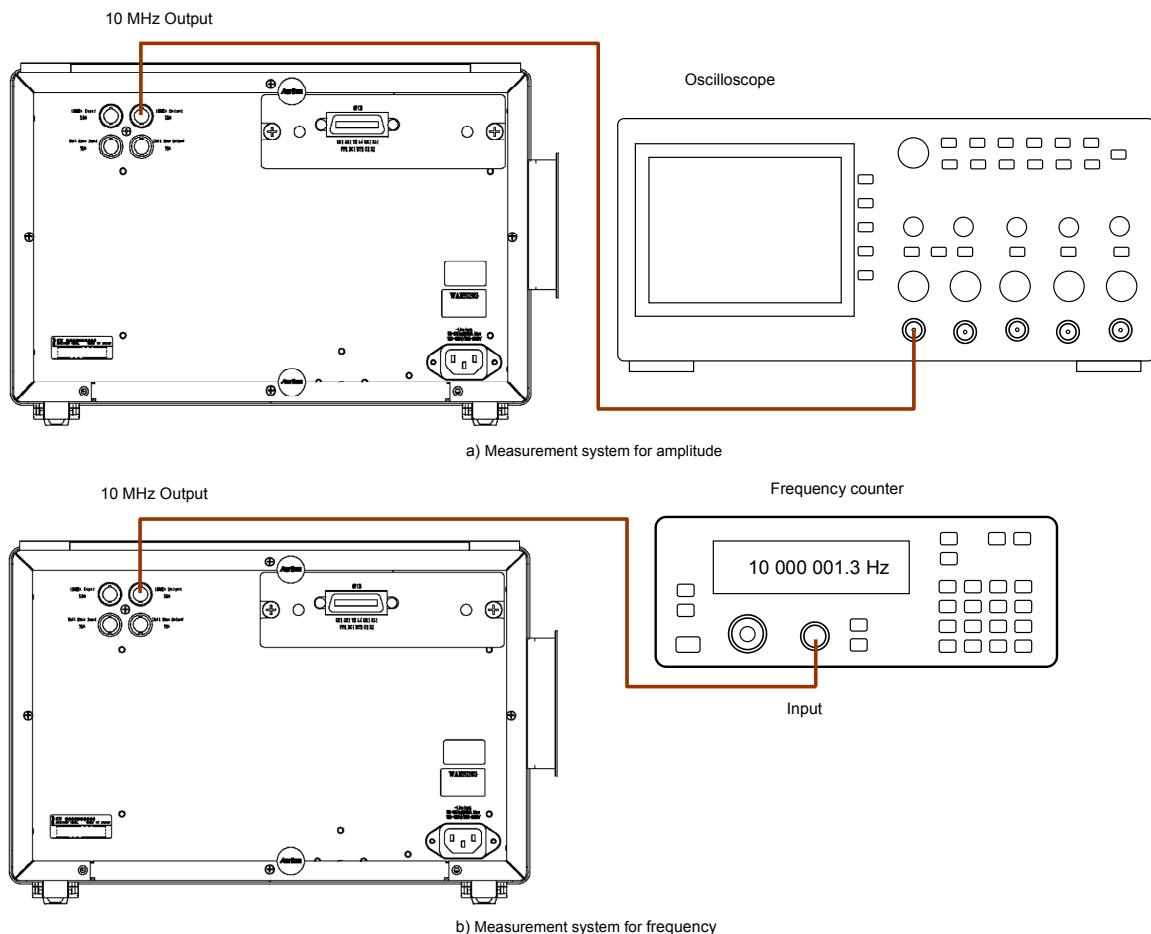

Figure 8.4-1 Measurement System for 10 MHz Output Terminal
1. Connect the 10MHz Output terminal at the rear panel of the MD1260A and the oscilloscope (Figure 8.4-1 a). Set the impedance of the oscilloscope to 50Ω .
9. Connect the 10 MHz Output terminal and the frequency counter at the rear panel of the MD1260A (Figure 8.4-1 b).